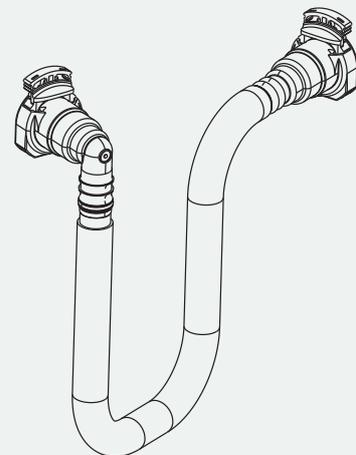

FIGURE 4 NYLON FUEL HOSE ASSEMBLY
- 2 Check the supplied Nylon fuel hose assembly with elbow and straight, as per Figure 4.